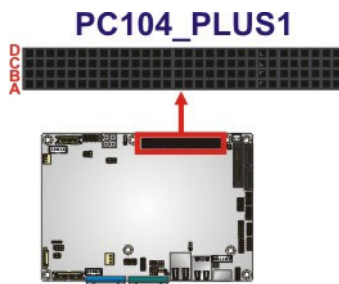

Figure 3-15: PCI-104 Connector Location
- CN Location:** See **Figure 3-15**